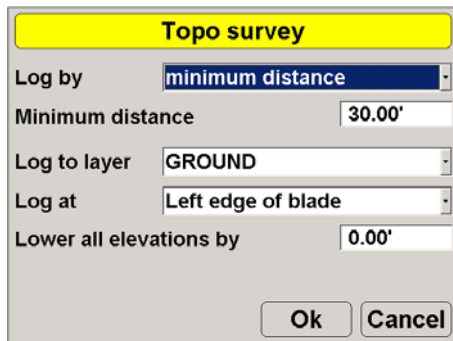

Figure 10-36. Enter Parameters for a Topo Survey
2. Tap **Topcon Logo ▶ Tools ▶ Topo survey** and enter or select the following information (Figure 10-36 on page 10-33). Press **Ok** when done.